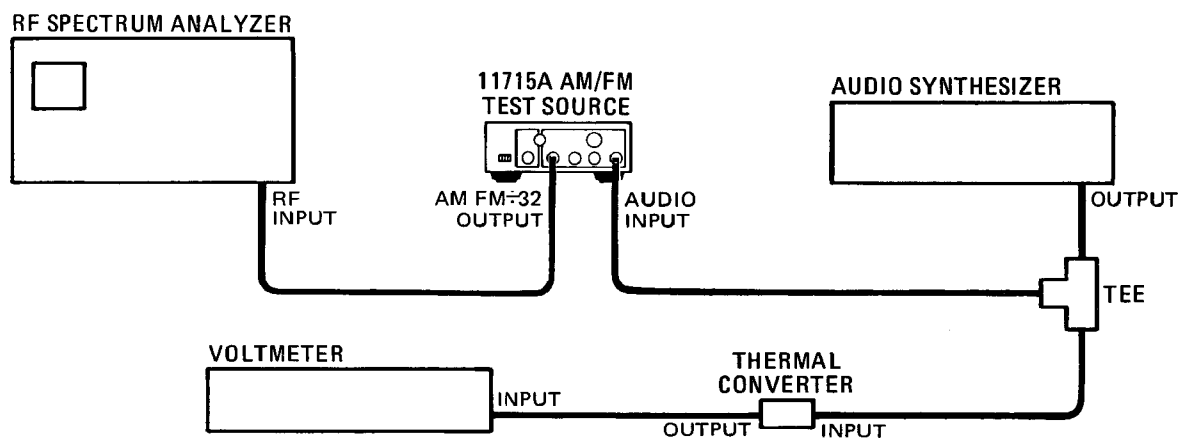

Figure 4-7. High-Frequency AM Flatness Test Setup
1. Connect the equipment as shown in Figure 4-7. Keep the thermal converter close to the AM/FM Test Source's AUDIO INPUT. Observe the following caution.